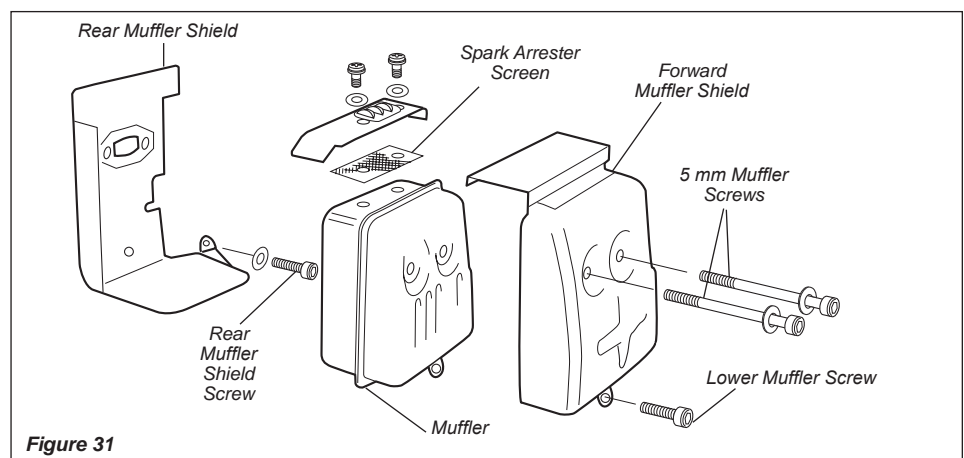

Figure 31
4. Separate the muffler from the forward muffler shield, while observing the orientation of the components. See Figure 31.